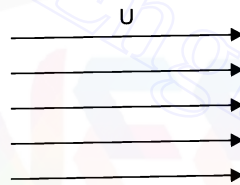

Fig. 5.27 (a)
**5.13.1 Uniform Flow Parallel to  $x$ -Axis.** Fig. 5.27 (a) shows the uniform flow parallel to  $x$ -axis. In a uniform flow, the velocity remains constant. All the fluid particles are moving with the same velocity.